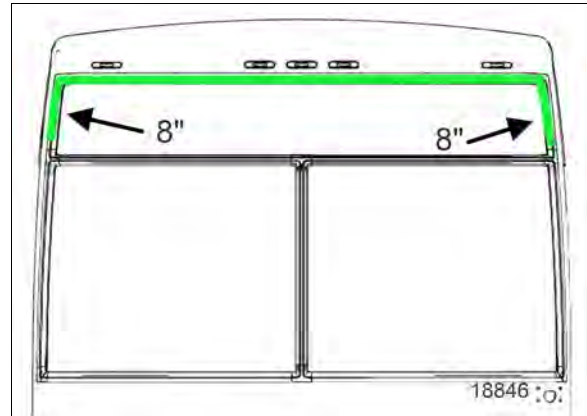

FIGURE 33: ADHESIVE LOCATION ON FIBER
5. Apply a 1/8" bead of adhesive on the fiber on the top and 8" on both sides as shown in Figure 33.